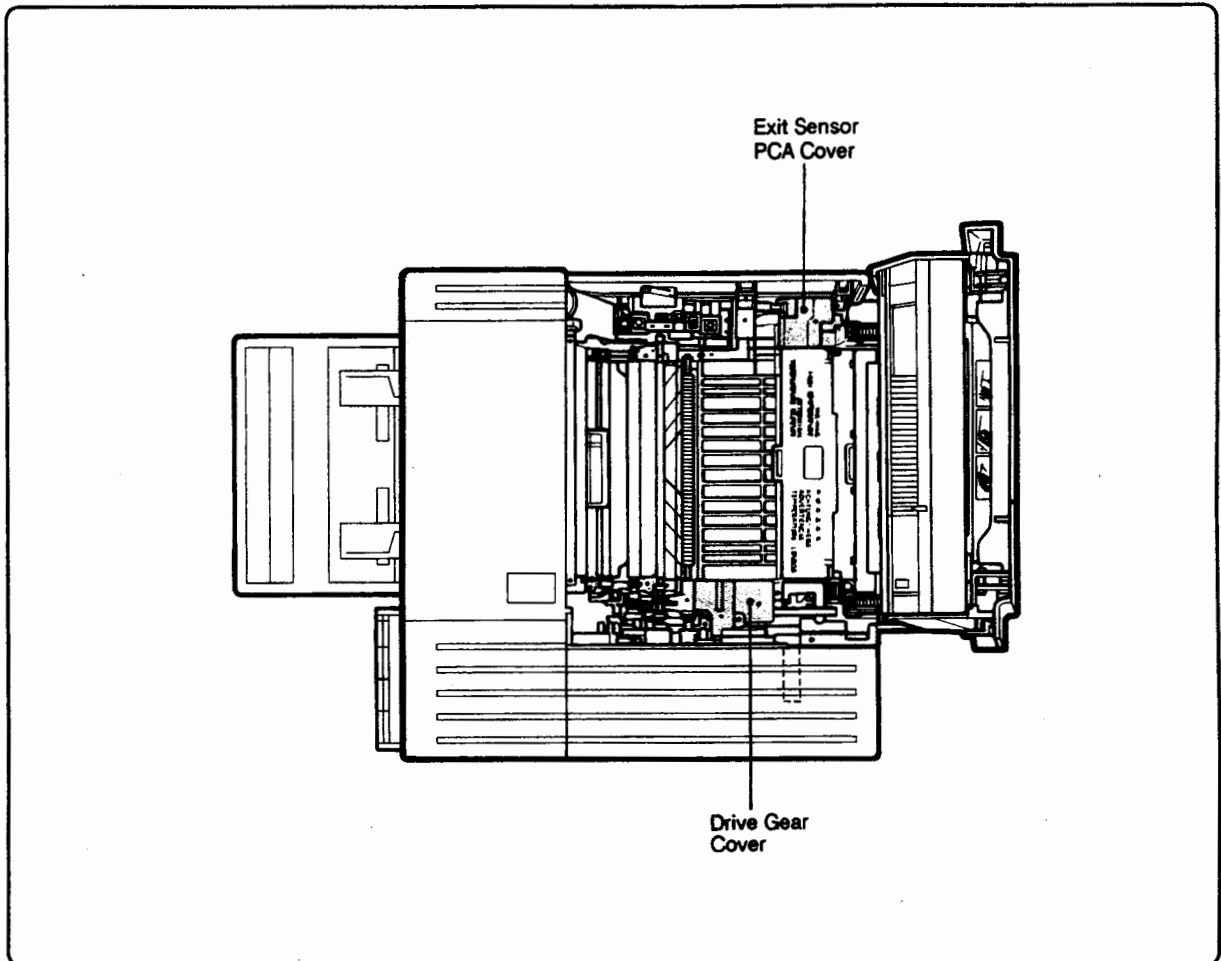

Figure 6-12. Miscellaneous Covers
Two protective covers, the Exit Sensor PCA Cover (1) and the Main Motor Drive Gears Cover (1), located inside the printers (see Figure 6-12) can be removed to facilitate access to other components. Note the position of each of these covers and replace them when servicing is complete.